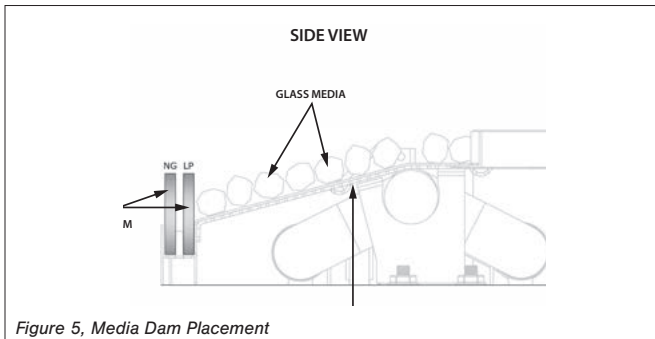

Figure 5, Media Dam Placement
- Step 3: Reinstall media dam for propane placement. See Figure 5 on page 4.